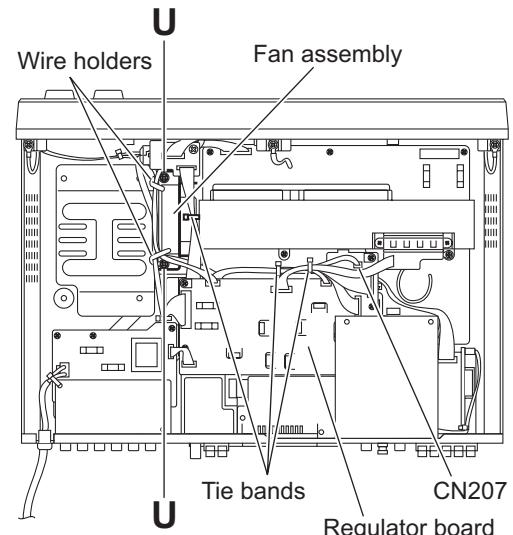

Fig.18
(See Figs. 18 and 19)
- (2) Disconnect the wire from the connector CN207 on the regulator board. (See Fig.18)
- (3) Remove the two screw **U** attaching the fan assembly and take out the fan assembly. (See Fig.18)